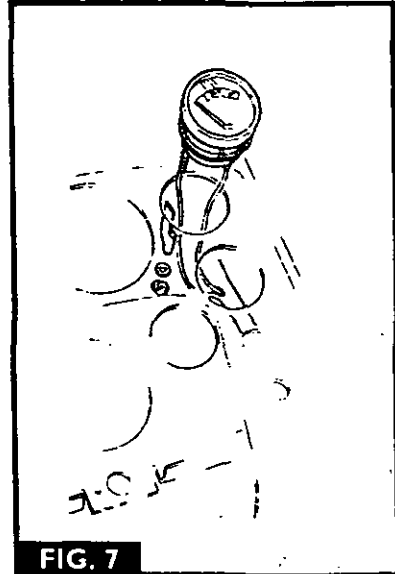

FIG. 7
2. Fig. 7. Disconnect the two wires from the back of the fuel gauge.